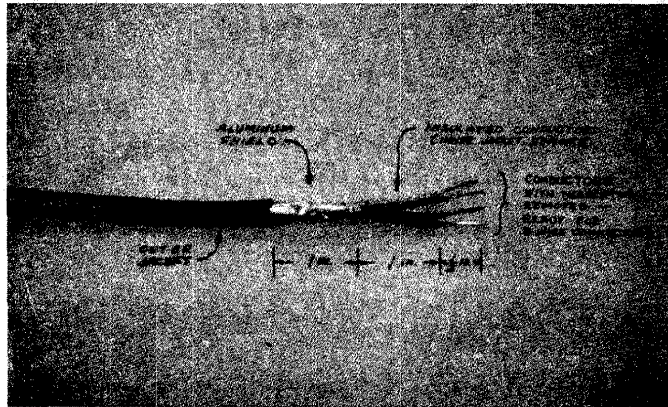

Figure 13
- 3.05 Prepare each B Service Wire as described in Paragraphs 3.01 to 3.04 except the length of exposed conductors should be reduced to  $1\frac{1}{2}$  inches as shown in Figure 13.